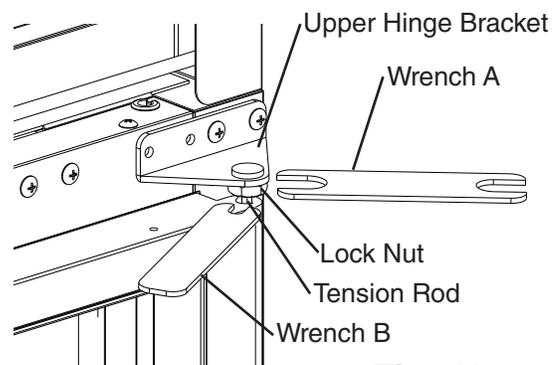

Fig. 40
- 5) Grip wrench B in a new position on the tension rod and hold (prepare for tension pressure), then using wrench A, loosen the lock nut again. See Fig. 40.